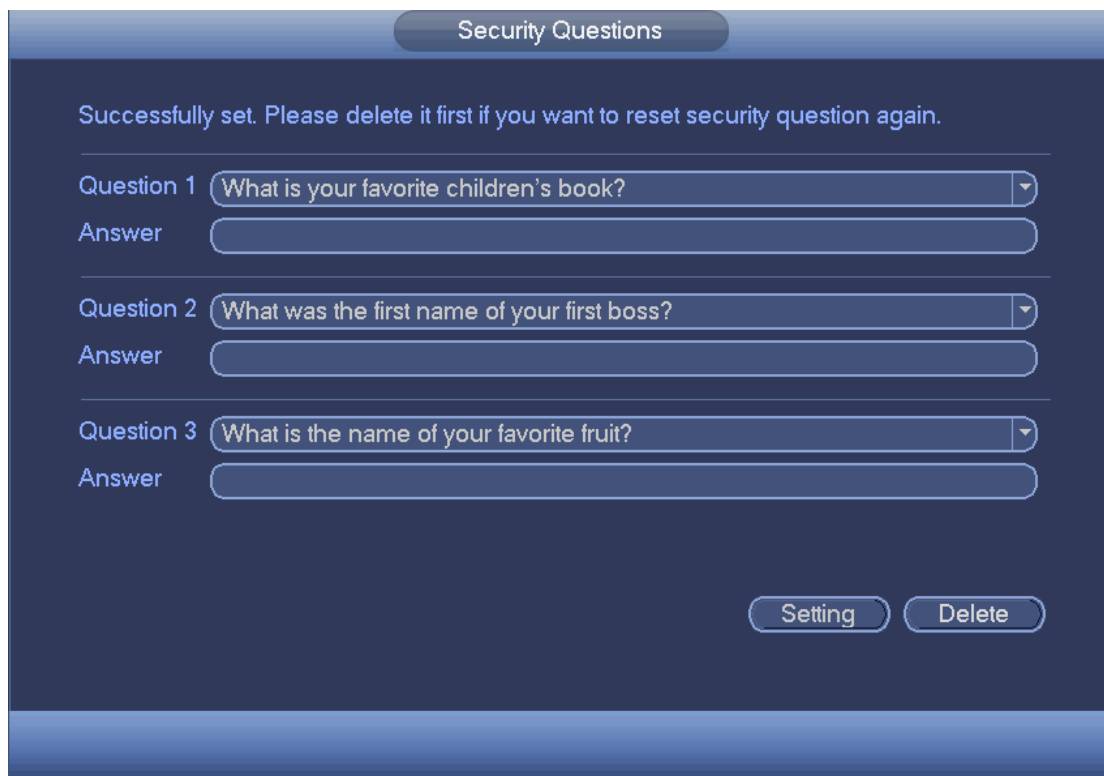

Figure 4-202
Step 1 Click Security question, enter the following interface. See Figure 4-202.